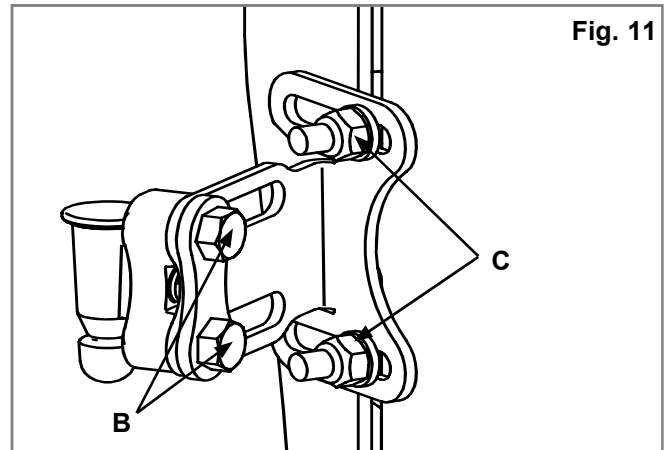

Fig. 11
(Fig. 11, 12, 13).
2. Aanpassing diepte/hoek (Fig. 11, 12, 13, 14).